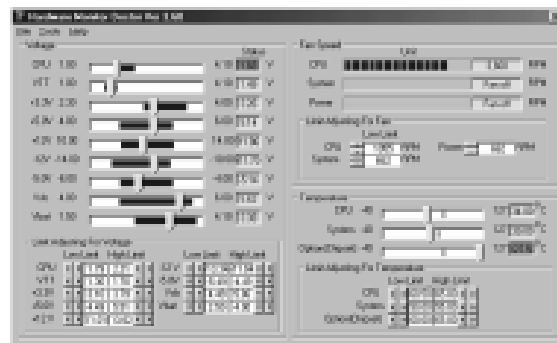

Figure 6
- Then click on the **“HardWare Doctor 360”**, the screen will appear Figure 6. Set the threshold you want for system temperature, voltages and fan speed, by clicking the option item to increase/decrease setting.